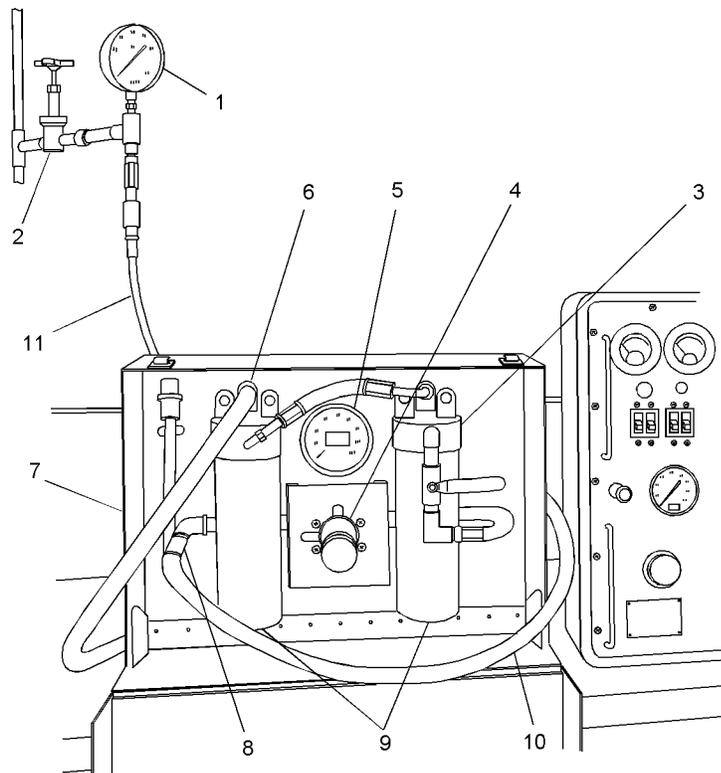

Figure 4-6. OBOGS Adapter Assembly
Figure 4-6 will be used for all index numbers throughout this procedure unless otherwise noted.
AIMD intermediate level maintenance shops will require an ON/OFF valve (2) and a 0 to 160 psig gage (1) or suitable substitutes installed on shop air supply source prior to the OBOGS Adapter Assembly Inlet. (Figure 4-6) shall be used for orientation of assembly.
26. Connect OBOGS Adapter Assembly Hose (11) to OBOGS Adapter Assembly INLET Port (6). Connect the other end of OBOGS Adapter Assembly Hose (11) to shop air source.
27. Turn on shop air supply. Pressure will be indicated on Shop Air Supply gage (1). At no time during operation shall Shop Air Supply gage (1) fall below 75 psig during the high-pressure swing.
28. Open OBOGS Adapter Assembly Bleed Ports (9) 1/4 to 1/2 turn until a slight bleed is present.
Figure 4-6 will be used for all identification numbers throughout this procedure unless otherwise noted.